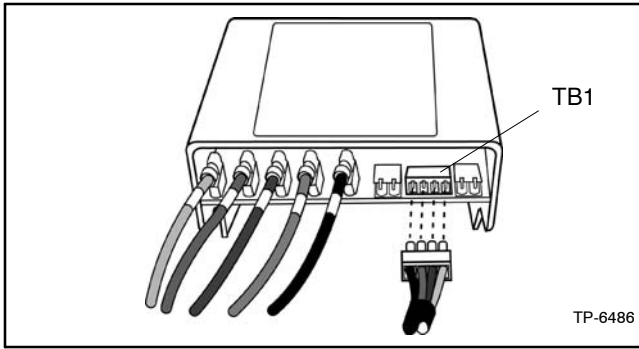

Figure 2-42 Communication Terminal TB1 on MPAC 550 Controller
2. Then install the green pluggable connector at the other end of the cable into terminal TB1 on the MPAC 550 controller. See Figure 2-42.